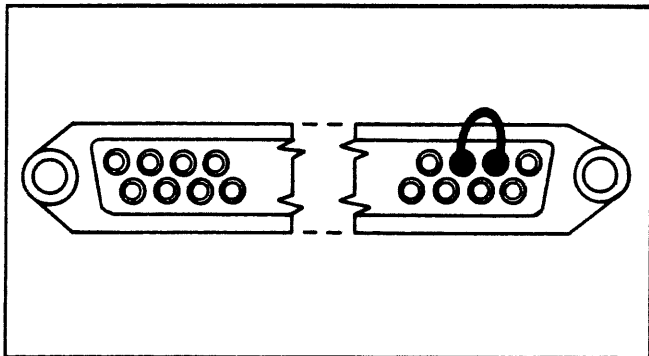

Figure 2-1: Connector Jumper
- b. If a test of the RS-232 interface is desired, short pins 2 and 3 of the RS-232 connector, located on the rear panel of the unit. (See Figure 2-1).